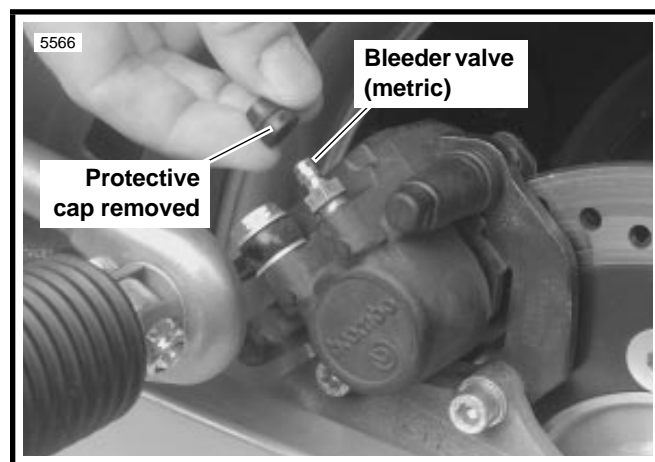

Figure 1-14. Rear Brake Caliper Bleeder Valve
- b. Rear brake caliper-Figure 1-14.